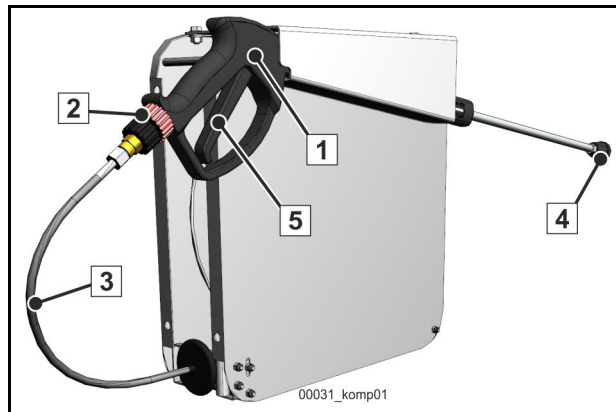

Fig. 432 Hose reel and spray lance
- Hold the spray lance tightly and direct the spraying nozzle (4) (Fig. 432) such that the water can flow out freely.
- Actuate the trigger of the spray lance (1) (Fig. 432) until water no longer escapes from the spraying nozzle.